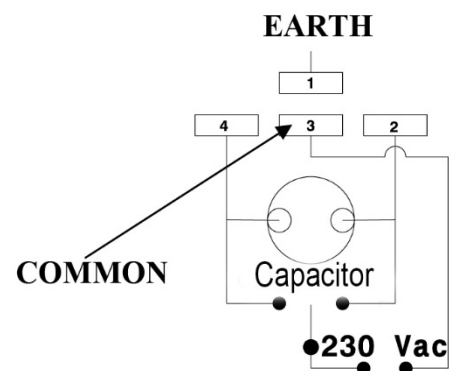

Fig.1
- 2) Fix the pillar support as shown in (**Fig.1 Page5**) shortening or extending the support according to the dimensions A and B shown in the (**Table1 Page 3**). The support should be fixed at a height where the gate has a sufficiently rigid surface to fix the gate support, bearing in mind that the gate support will be fixed **15 mm lower** than the pillar support. (**Fig.1 Page 10**).